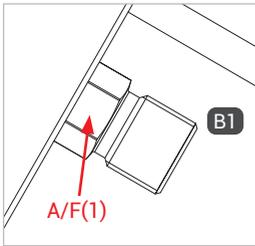

Figure 1
- ▶ When mounting the filling hose, hold an open-ended wrench against the wrench size A/F(1) (Figure 1).
- ▶ Screw the media inlet 'B1' pressure-tight onto the connection port of the filling hose (Figure 1). For the tightening torque, please refer to the table below.